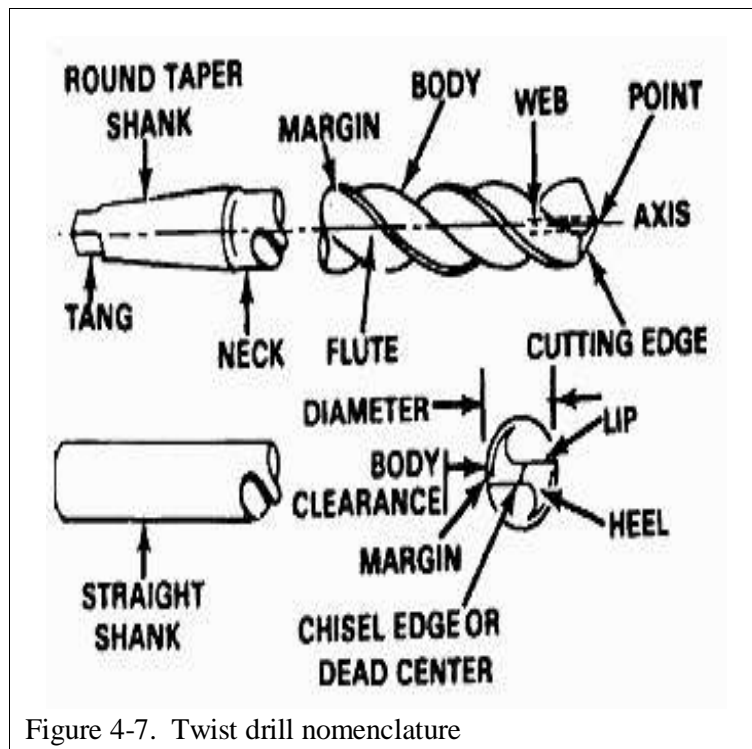

Figure 4-7. Twist drill nomenclature
**Twist drills:** Are the most common cutting tools used with drilling machines. Twist drills are designed to make round holes quickly and accurately in all materials. They are called twist drills mainly because of the helical flutes or grooves that wind around the body from the point to the neck of the drill and appear to be twisted (Figure 4-7). Twist drills are simply constructed but designed very tough to withstand the high torque of turning, the downward pressure on the drill, and the high heat generated by friction.
Twist drills are classified as **straight shank or tapered shank** (Figure 4-7). Straight shank twist drills are usually 1/2-inch or smaller and usually mounted into geared drill chucks. Tapered shank drills are usually larger, because need more mechanical strength, commonly mounted in tapered socket chucks. Common twist drill sizes range from 0.0135 (wire gage size No. 80) to 3.500 inches in diameter.
It is important to know the parts of the twist drill for proper identification and sharpening (Figure 4-7). The point is the entire conical shaped end of the drill containing the cutting edges and chisel edge. The body is the part of the drill that is fluted and relieved. The shank is the part that fits into the holding device, whether it is a straight shank or a tapered shank. The chisel edge is the point at which the two lips meet.